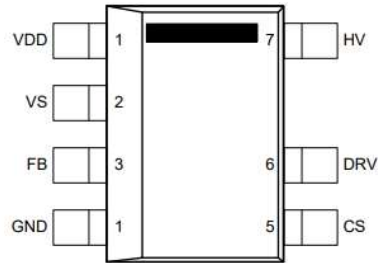
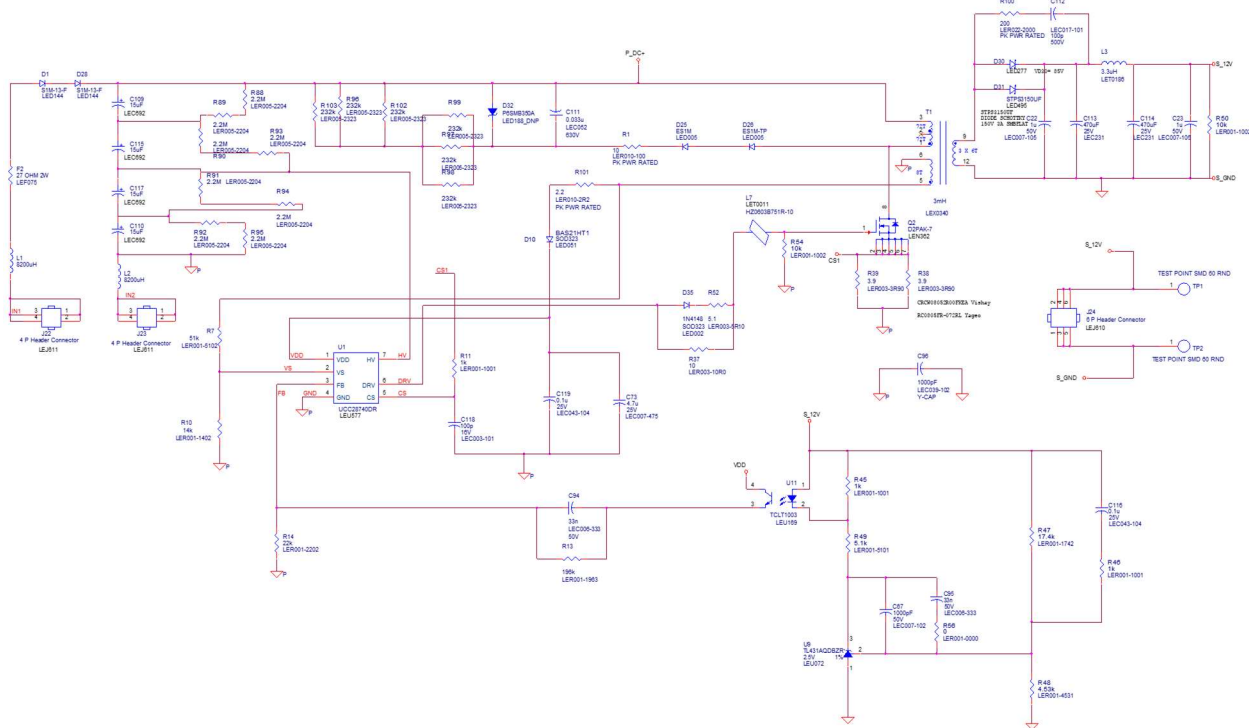

Figure 4: Cree’s Flyback controller IC (P/N: UCC28740) from Texas Instruments Inc.
Figure 5: Schematic of Cree’s CRD15DD17P, 15 W flyback auxiliary power supply board
A Texas Instruments Inc. flyback controller (P/N: UCC28740) (as shown in Figure 4) has been utilized in Cree's CRD15DD17P, 15 W flyback auxiliary power supply board. This controller contains less than 10 mW no load power capability, optocoupled feedback for constant voltage (CV) mode and primary side regulation for constant current (CC) mode (which enable +/- 1% voltage regulation across line and load), a 700 V start-up switch, valley switching operation for
Cree's CRD15DD17P, 15 W flyback auxiliary power supply board accepts both AC and DC input (as shown in Figure 5). If the type of input is AC, diodes D1 and D28 serve as input voltage rectifiers and DC voltage is established across the four aluminum capacitors C109, C110, C105 and C107. The inductors L1 and L2 are used for EMI suppression. A fusible resistor F2 is used to reduce the charging current and will open when there is an over current condition due to a malfunction in the circuit. The midpoint between capacitors C115 and C117 has half the rectified DC input voltage, so the maximum voltage that controller U1 will experience at its HV pin (as shown in Figure 4) would be 600 VDC for 1200 VDC input, which is below the 700 V rating. The voltage at this midpoint provides an initial charging current via controller U1's built-in high-voltage start-up switch until VDD pin (as shown in Figure 4) reaches the turn-on voltage of controller U1. Once controller U1 starts switching the primary side's main switch, voltage VDD will be maintained via auxiliary winding (5-6) of the flyback transformer, and the internal switch that provides start-up current in controller U1 will be turned off to reduce power loss.
If the type of input is DC (i.e., for applications with less than 1000 VDC), only two snubber resistors, R96 and R97 (as shown in Figure 5), can be used on Cree's CRD15DD17P, 15 W flyback auxiliary power supply board to improve efficiency. To power up Cree's CRD15DD17P, 15 W flyback auxiliary power supply board with 300 VDC – 1000 VDC input, replace R90, R91, R93 and R94 (as shown in Figure 5) with 0Ω resistors to short capacitors C115 and C117 (as shown in Figure 5).